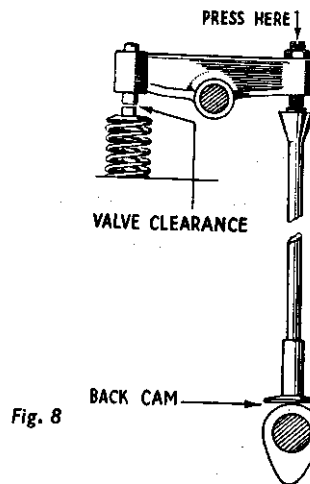

Fig. 8
A glance at illustration Fig. 8, covering valve tappet clearances will make this point clear.
- ii. Turn flywheel until BACK-CAM position of the valve to be checked is reached. See Fig. 8.